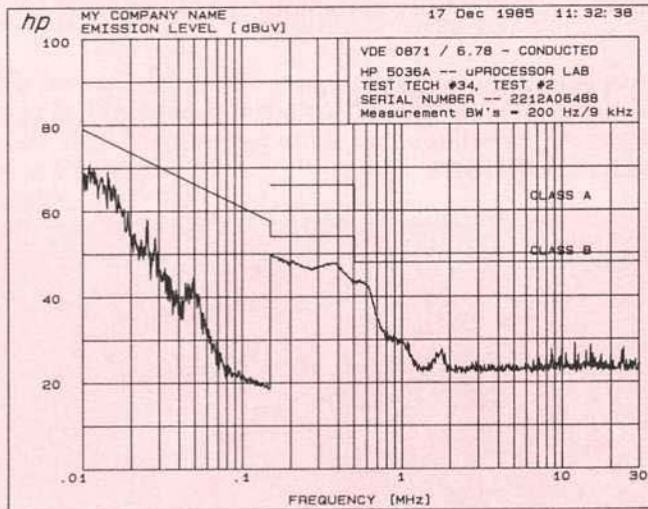

Figure 22. Typical Plot of Displayed Measurement Data
The PLOT function duplicates the spectrum analyzer display on a system plotter (see Figure 22.) The operator has a choice of three formats: one, two, or four plots per page. The operator selects the frame for plotting on the multiple plot formats. The PENS function makes available to eight (8) different colors for plotting different parts of the display. For example, individual colors may be chosen to draw the graticule, limit line, data, and annotation.